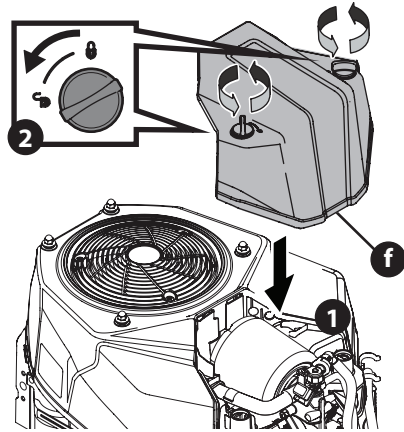

Figure 13
7. Attach the air filter cover (f). (Figure 13). Turn thumb screws clockwise a 1/4 turn until snug. Check for any misalignment.